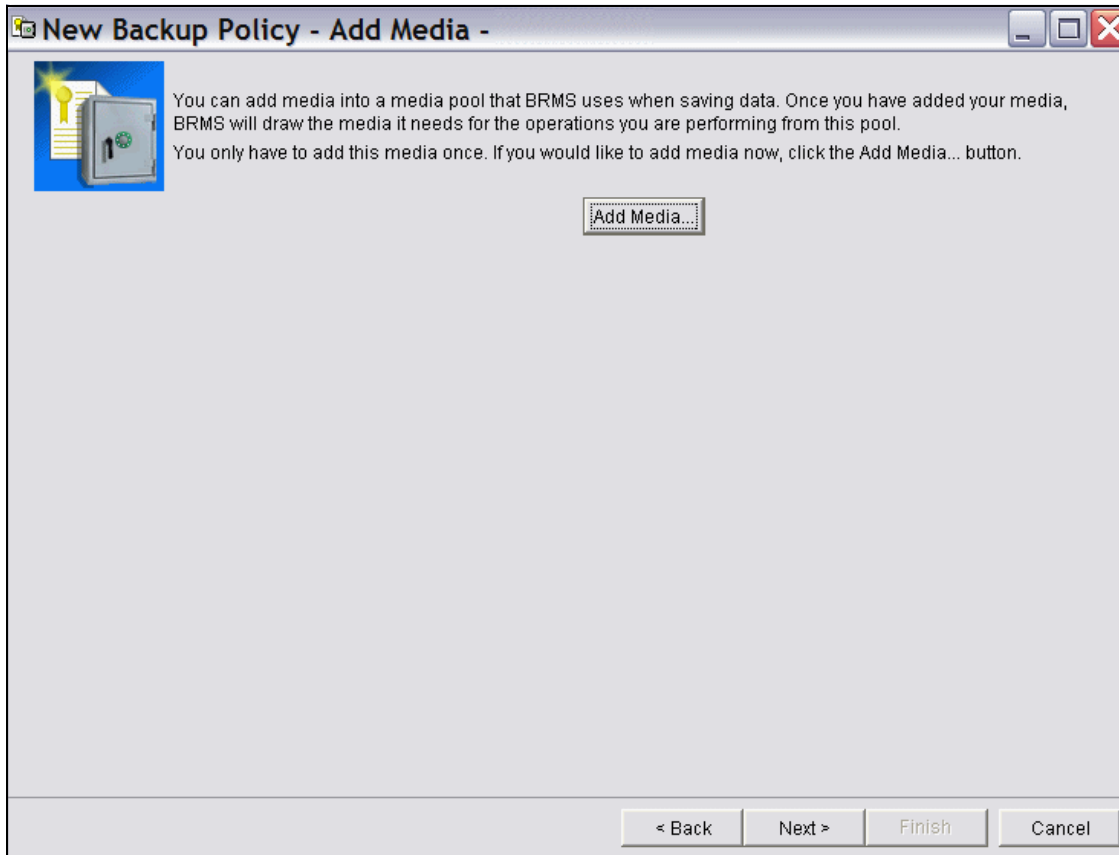

Figure 5-40 BRMS backup policy, add media done
27. In the Add Media window shown in Figure 5-40 on page 228, click **Next**.